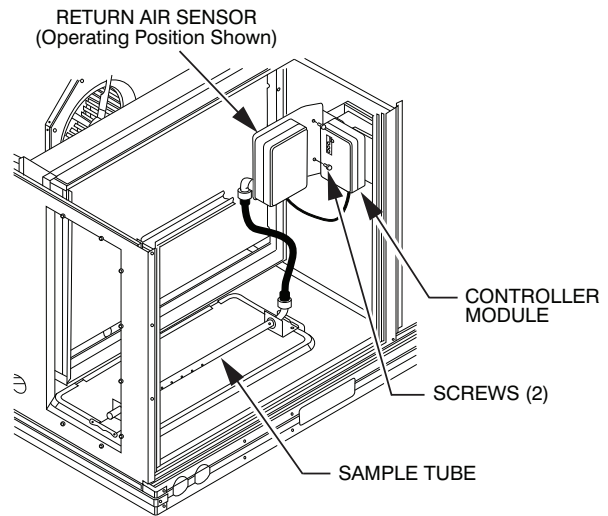

Fig. 50 - Return Air Sensor Operating Position
3. Rotate the detector plate so the sensor is facing outwards and the sampling tube connection is on the bottom. See Fig. 50.
4. Screw the sensor and detector plate into its operating position using screws from Step 1. Make sure the sampling tube connection is on the bottom and the exhaust tube is on the top. See Fig. 50.